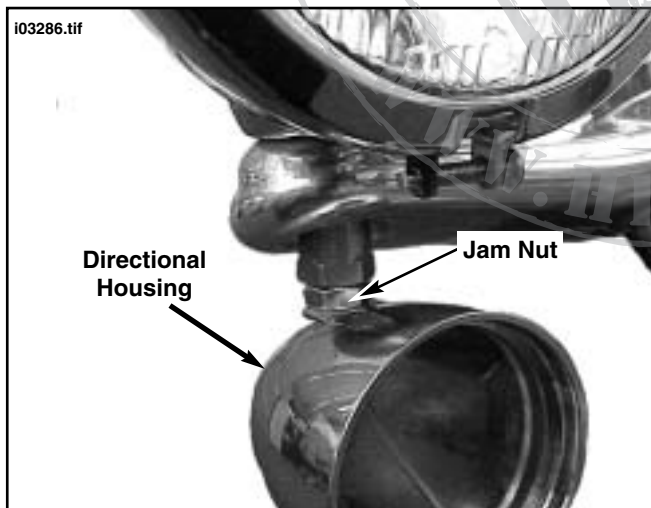

Figure 10. Install Directional
- See Figure 10. Thread directional onto retaining nut until snug, then back off the minimum amount to allow forward alignment of lamp housings. Snug jam nut against directional housing to lock in place.